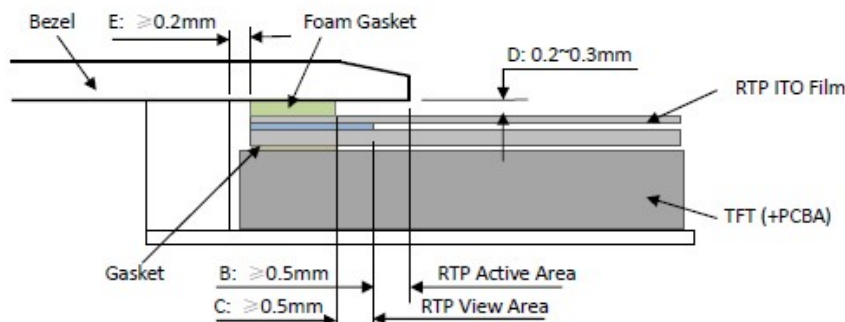

Figure 4
- It should bezel touching the RTP Active Area (A.A.) to prevent abnormal touch.It should left gab $D=0.2\sim 0.3\text{mm}$ in between. (Figure 4)
- Outer bezel design should take care about the area outside the A.A. Those areas contain circuit wires which is having different thickness. Touching those areas could de-form the ITO film. As a result bezel the ITO film be damaged and shorten its lifetime. It is suggested to protect those areas with gasket (between the bezel and RTP).The suggested figures are $B\geq 0.50\text{mm}$; $C\geq 0.50\text{mm}$. (Figure 4)
- The bezel side wall should keep space $E=0.2\sim 0.3\text{mm}$ from the RTP. (Figure 4)
- 为避免面框直接压在动作区 (A. A.) 上造成误动作，面框与电阻触摸屏 (RTP) 之间应留有一定的空隙 $D=0.2\sim 0.3\text{mm}$ 之间. (附图 4)
- 设计面框时，要注意用面框保护触摸屏四周的非保证操作区域，因为布线区域在此处形成一台阶，在此区域附近操作时 ITO Film 变形较大，容易导致 ITO 损坏而降低寿命。为保护 RTP 和避免误操作，在 RTP 与面框之间垫缓冲物 (Gasket)，我们建议设计面框应覆盖动作区的边缘，面框边缘到 V. A. 区的距离 $B\geq 0.50\text{mm}$ ；垫圈内边缘到 V. A. 区的距离 $C\geq 0.50\text{mm}$ 。 (附图 4)
- 在设计面框与 RTP 组装时，应考虑到面框内侧与 RTP 外侧的间距 $E\geq 0.2\text{mm}$ 。 (附图 4)